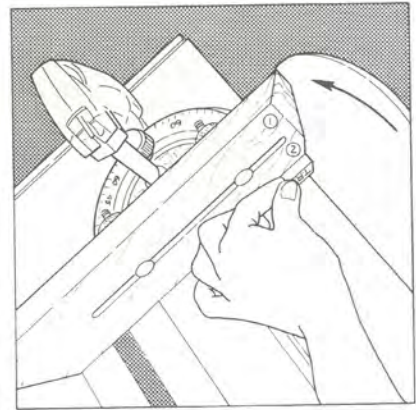

Figure 6. Resurface the beveled ends of the short blocks with the miter gauge set at 90° and the table set a 30° right.
5. Resurface the beveled ends of the short blocks. Tilt the table at 30° right and flip the miter gauge extension over so that corner #2 butts flush against the sanding disc. Readjust the table and the miter gauge extension so that they are as close as possible to the sanding disc without touching it. Turn the Mark V on and resurface the beveled ends of the short blocks, using the same technique you used in the previous step. (See Figure 6.) Turn the Mark V off when you've finished.